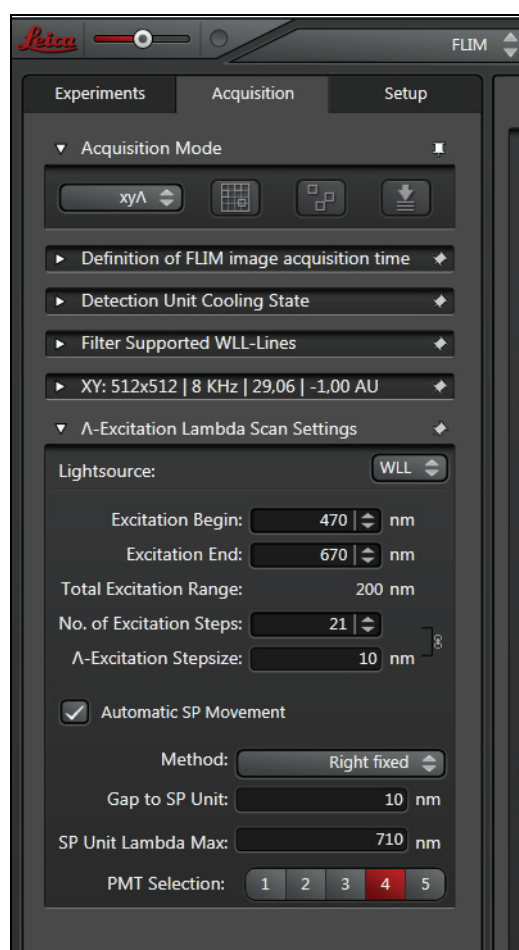

Figure 146: Defining xy Λ FLIM stacks
- Open the **Acquisition** tab. If you want to use a spectral internal FLIM detector, select it in the **PMT Selection** field (Figure 146). If you remove the check next to **Automatic SP Movement**, you can manually select the external detector manually with white light or MP laser excitation in **Beam Path Settings**.
9. Define the stack in the Λ stack dialog as follows (Figure 146):